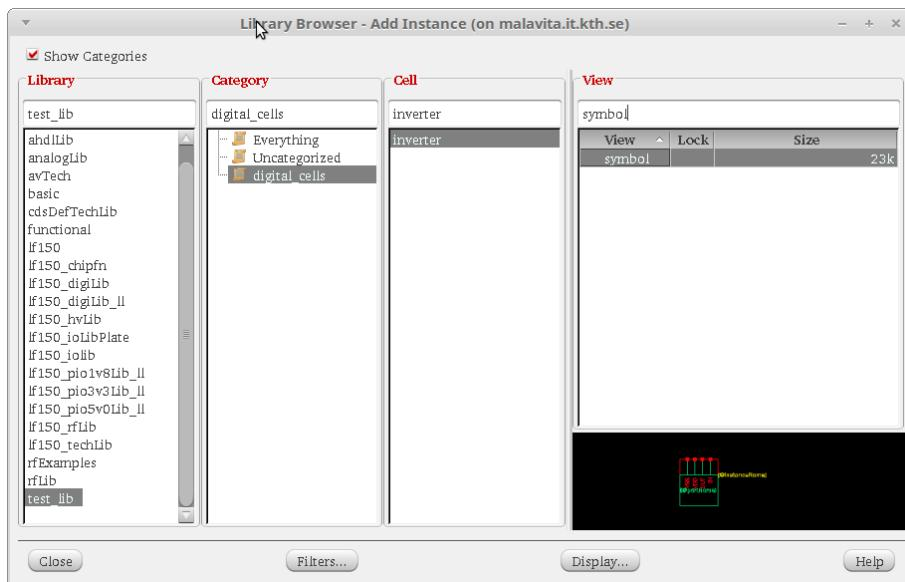

Figure 19: Insert the Inverter Symbol
2. Insert the inverter's symbol that was created before. To do so, press 'i' and then click on the Browse button. Select the inverter's symbol (see Fig. 19) and insert it in your schematic.